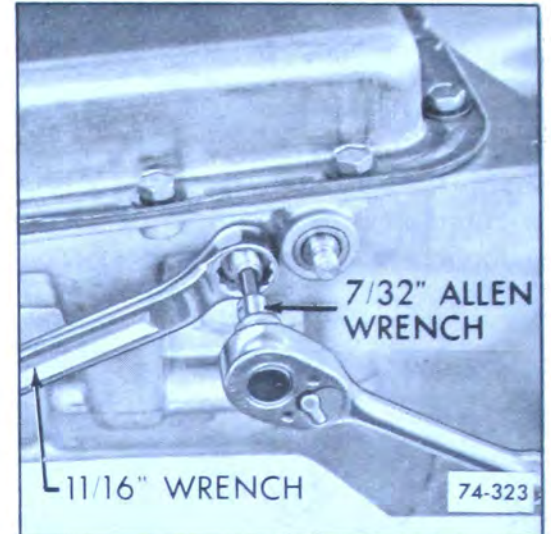

Figure 74-323
2. Back off band adjusting screw four (4) turns and lock nut. See Figure 74-323.